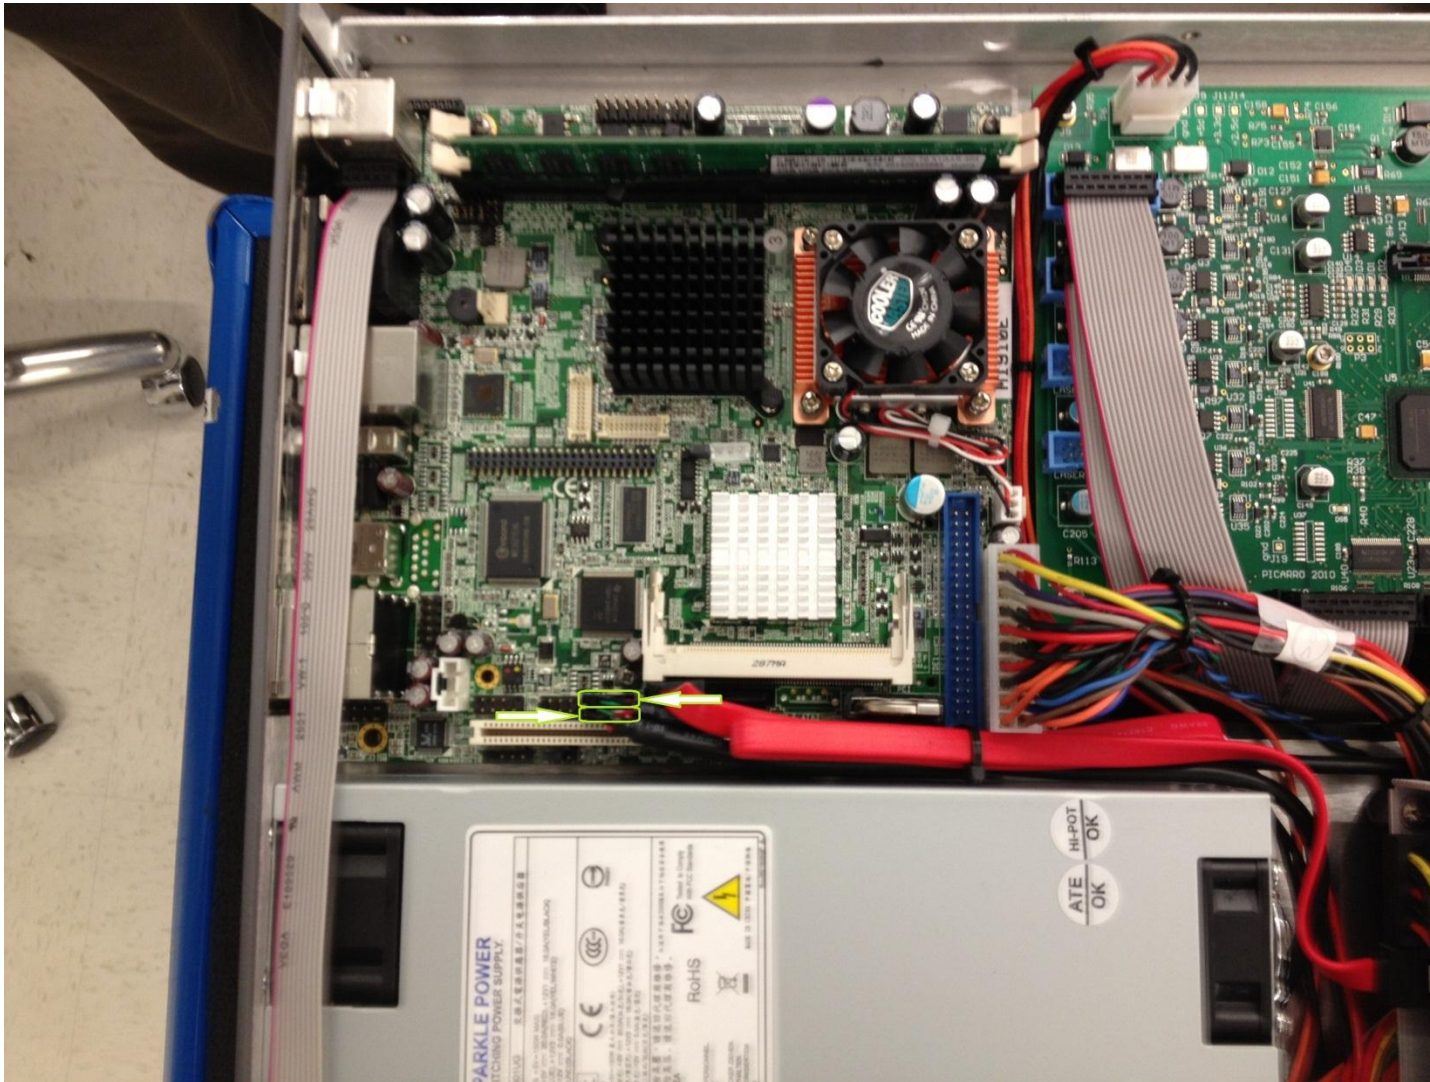

FIGURE 10: 5-pin DIN Cable Locations
- Next to the USB connection on the PCB are 2 coupled 5 pin DIN connectors (female) which are connected to corresponding male pins from the PCB (Figure 10). Before removing these cables, make note of their orientation with respect to one another. They must reconnect to the new board in the same way, with identical orientation.